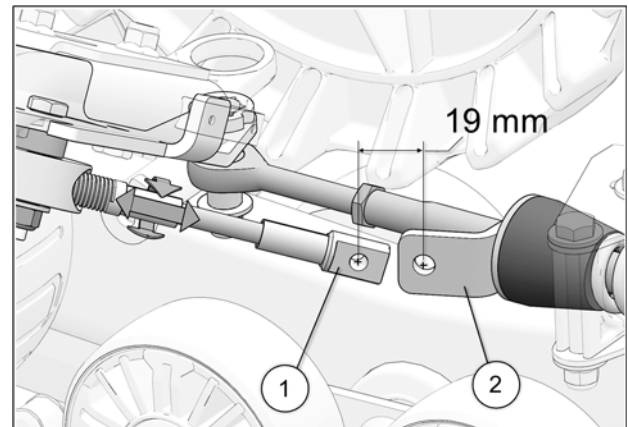

Fig. 26
14. Turn the vehicle's steering wheel to its maximum point of travel on the left. While maintaining pressure on the steering wheel, turn threaded rod to adjust length of cable. See Fig. 26
15. Position cable end hole (1) 19 mm [$\frac{3}{4}$ in.] short of support plate mounting hole (2). See Fig. 26